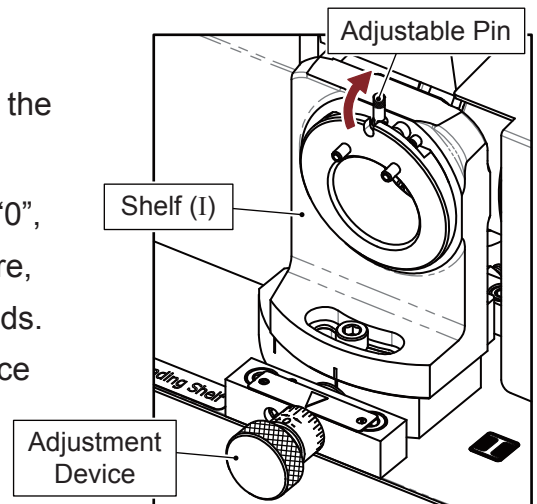

Fig. 5-9
1) Secondary Relief Grinding Shelf (I) (Fig. 5-9)
- ① Move the adjustable pin on the Shelf (I) from the bottom to top.
- ② Adjust the cutting face adjustment device to “0”, after finishing the whole sharpening procedure, then adjust this device according to your needs. (See chapter “V-4. The use of the Cutting Face Adjustment Device”)